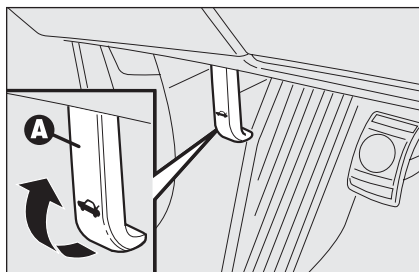

fig. 81
- pull lever **A-fig. 81** until hearing the releasing click;